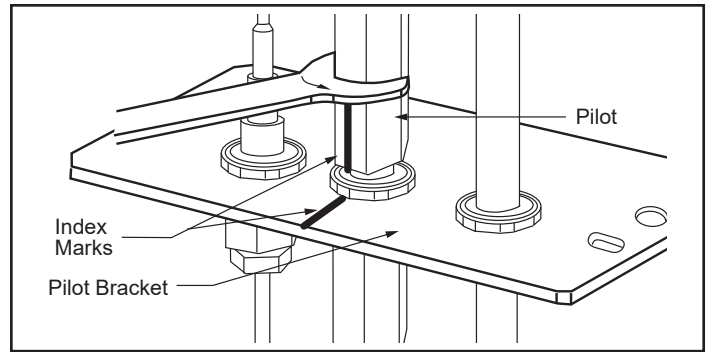

Figure 55 - Remove pilot hood. (Your pilot may have a different appearance).
8. Remove injector orifices from left burner leg using 1/2" wrench. (Figure 55)
- Loosen pilot hood turning counterclockwise using a 7/16" wrench. (Figure 55) **NOTE:** You may use penetrating oil to prevent pilot hood threads from seizing up.